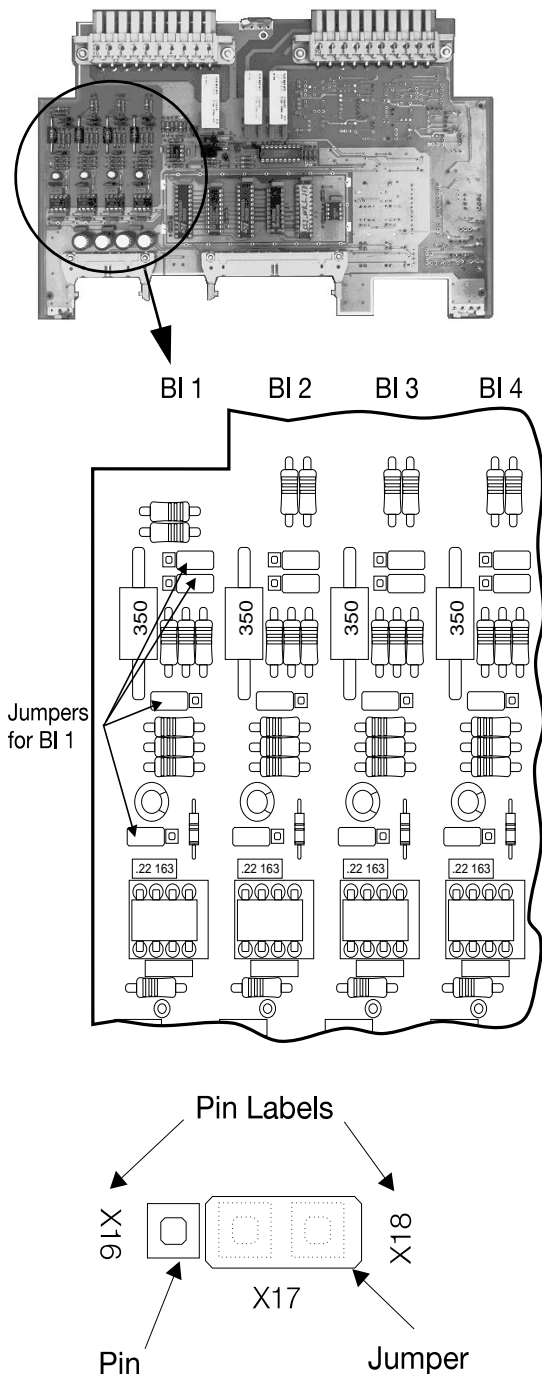

Figure 4.5 Option Board 2 with Binary Inputs
Binary inputs are jumpered to correspond to the auxiliary supply voltage of the relay in which they are installed. The inputs will correctly respond to DC or AC depending on the jumpering. The jumpers can be placed to allow the inputs to work with any of the available voltages, independent of the auxiliary supply voltage. Refer to **Figure 4.5** and **Table 4.1**.
Figure 4.5 shows option board 2 and its jumpers. The drawing indicates the jumpers associated with each binary input. The enlarged set of pins shows an example of pin labeling and a jumper at location X17-X18.
6. Withdraw these two attached boards and set them on the workplace with the jumper side up (see **Figure 4.5**).
Example: In **Figure 4.5**, the jumper is over pins X17 and X18, a default setting for a 125 V power supply. For a 48 V power supply, set this jumper to X16-X17.